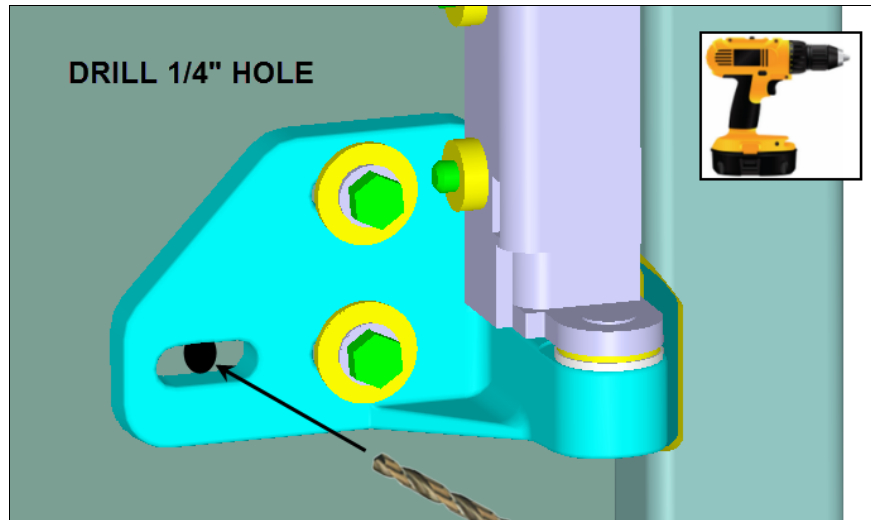

FIG.19 LOWER HINGE 3rd BOLT HOLE
- 8) Drill a 1/4" hole in the middle of the lower hinge 3rd slot (Fig.19).